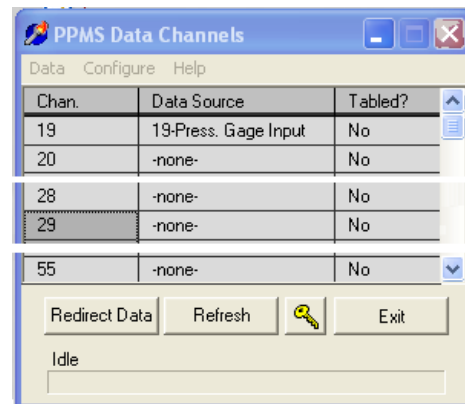

Figure 7. Channel 29 selected as the data source
1. Start the **Tables** utility (double-click on the TABLES32.exe file, located in C:\QdPpms\Tools). The **PPMS Data Channels** dialog box will open with a list of channels (e.g., Figure 7).